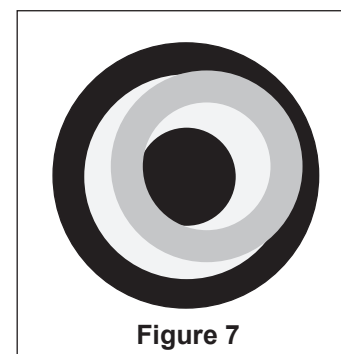

Figure 7
- 7 The image seen through the phase contrast centering telescope should resemble rings superimposed on one another (see Figure 7). What is actually being viewed are the phase rings. Holding a white sheet of paper on the stage and sliding back and forth between the objective and stage will make this easier to see.